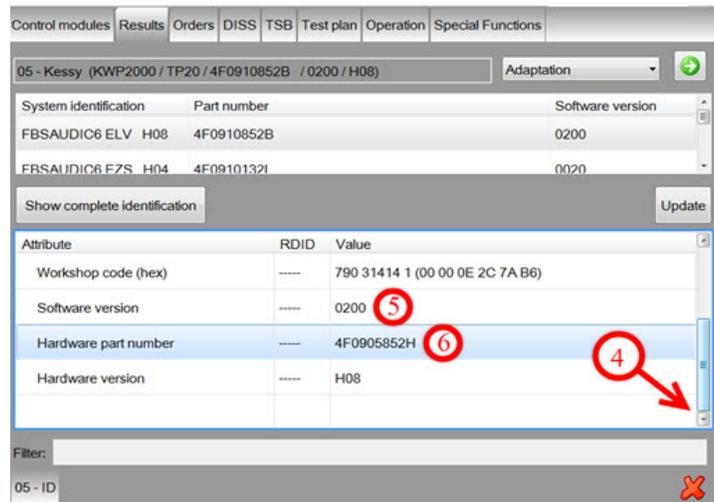

Figure 5. Bottom of lower results window (4) showing software version (5) and hardware part number (6).
- Scroll to the bottom of the lower results window to see the software version and hardware part number (Figure 5).